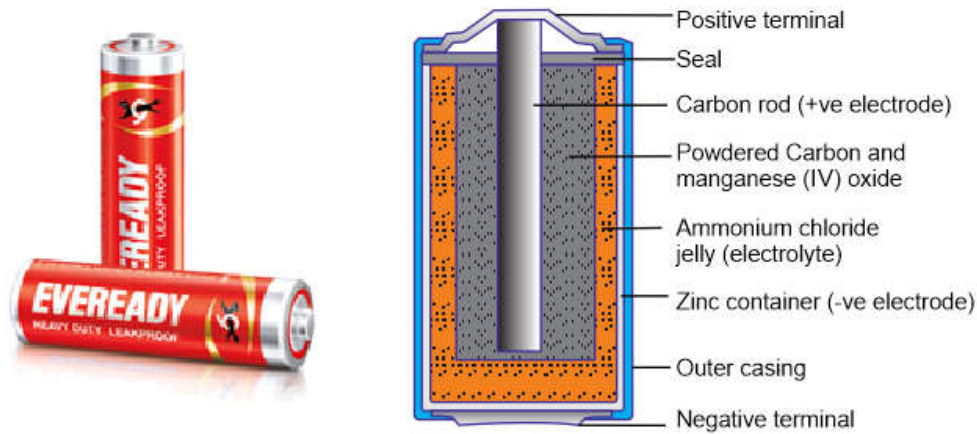

Fig. 10.12: Dry cell
It is referred to as dry because it contains no liquid. As shown in Fig. 10.12, carbon rod is the positive terminal while zinc plate is the negative terminal. The electrolyte ammonium chloride jelly or paste, the manganese (IV) oxide is used as the depolarizer while *carbon powder increases the surface area of conduction*.